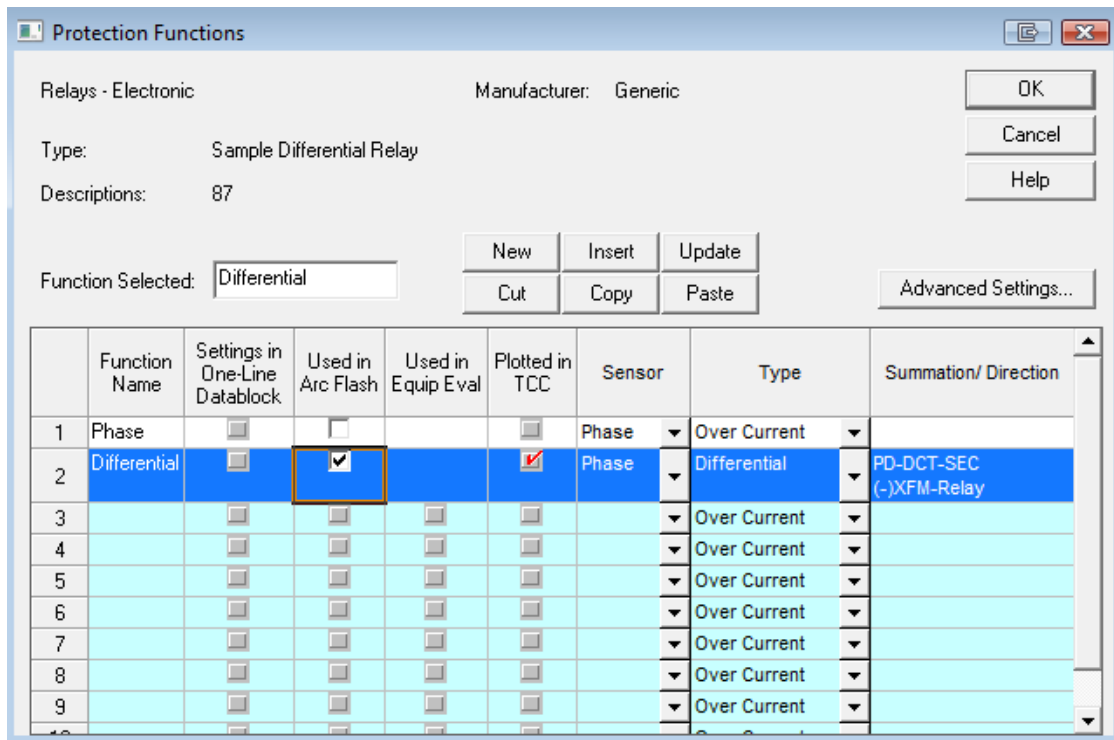

Figure 10
- Click the Function button again to confirm that the “Used in Arc Flash” is now available for the differential function as well. Check this box to use the differential function in Arc Flash. Note that the box in front of Phase is automatically unchecked (Figure 10). Now click OK.